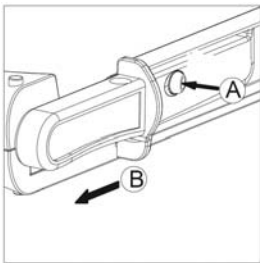

Fig. 1
- 2 Press the locking button (Fig. 1, A) to release the locking mechanism and pull out the handle (Fig. 1, B).